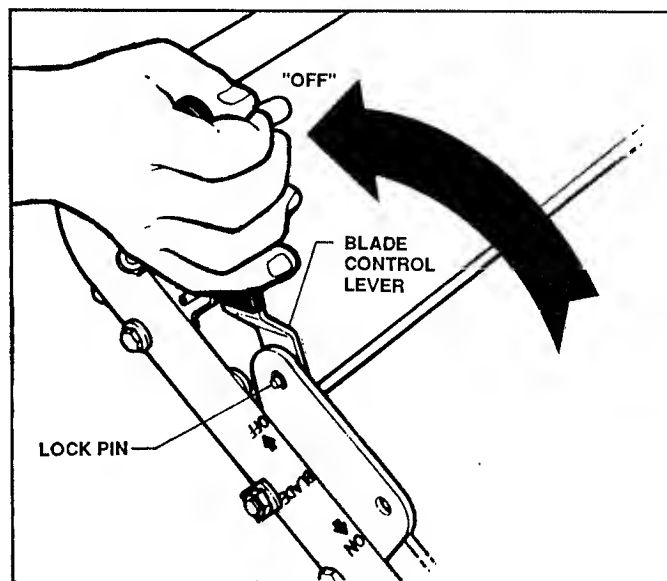

FIGURE 4
MOWER BLADE: STOP MOWER BLADE by moving BLADE CONTROL lever to the left and pulling back until it locks in the "OFF" position. See Figure 4.
1. MOVE BLADE CONTROL lever to OFF position so that interlock will allow engine to start. Refer to Figure 4.
STOP MOWER BLADE by moving **BLADE CONTROL** lever to the left and pulling back until it locks in the "OFF" position. See Figure 4.